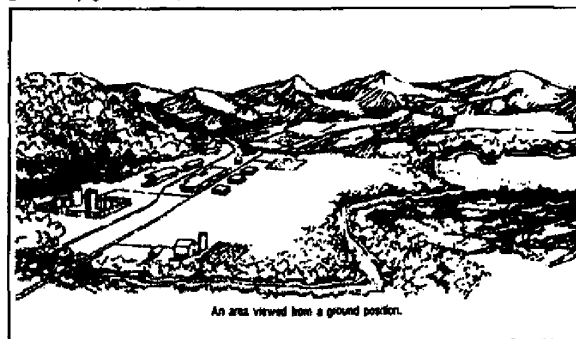

Figure C-34. Features used to orient map
1. Match terrain features appearing on the map with physical features on the ground (figure C-34).